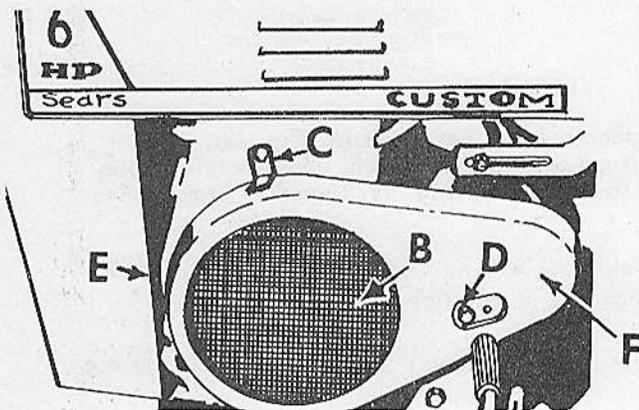

FIG. 21
The screen (B Fig. 21), MUST BE BRUSHED, CLEANED FREQUENTLY, while operating tractor to prevent engine from over-heating.
- a. Remove machine screws (C, D and E, Fig. 21). This will allow removal of belt guard assembly (F, Fig. 21).